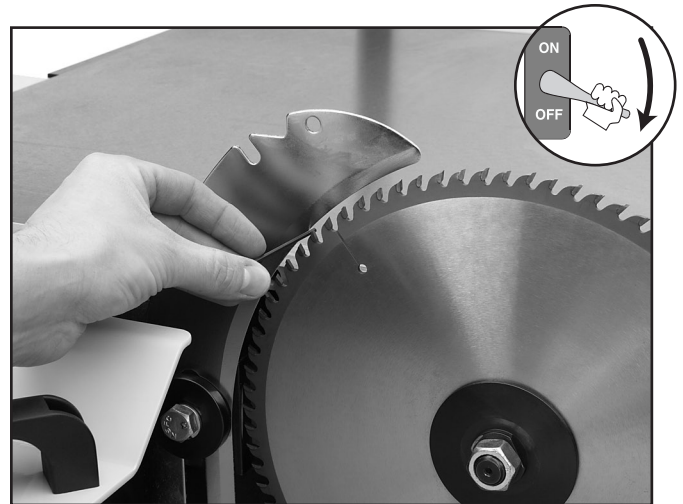

Figure 58. Aligning the riving knife.
6. Position the riving knife about 3mm or 1/8" away from the nearest carbide tooth on the main blade. Note—*For a quick gauge, use the 3mm hex wrench to find the correct spacing between the blade and the riving knife, as shown in **Figure 58**.*